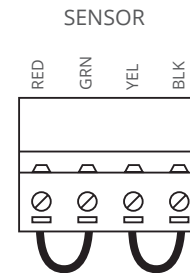

Figure 4
- Linking out of zones is not required unless they have been enabled in software. (see fig.4 for linking out details)